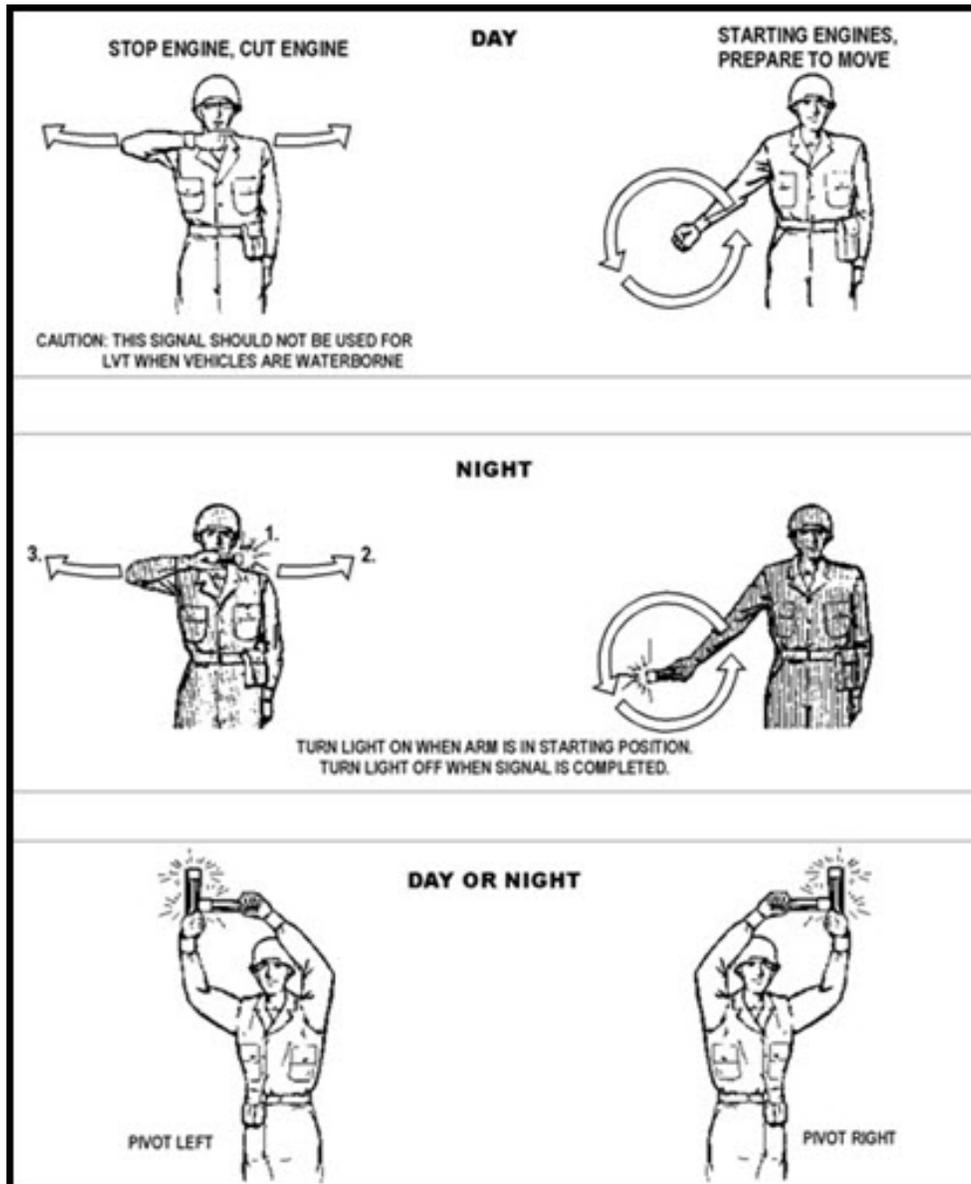

Figure 14-1 Day and Night Engine Control Signals
- Loading and unloading of vehicles and cargo from landing craft and controlling the movement of AAVs and vehicles is accomplished by hand and arm signal. Figures 14-1 and 14-2 show various signals used in the well deck. Amber lighted wands will be used at night or in reduced visibility for controlling craft in the well deck.